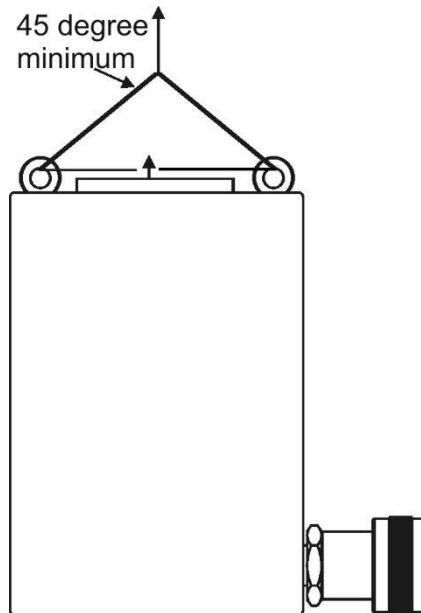

Figure 1 – Hoisting Cylinder
- ⚠ WARNING:** When hoisting the cylinder, use **all** of the eye bolts. Failure to do so could cause the cylinder to drop unexpectedly. Lifting straps must be at a 45 degree or greater angle from horizontal (see Figure 1)